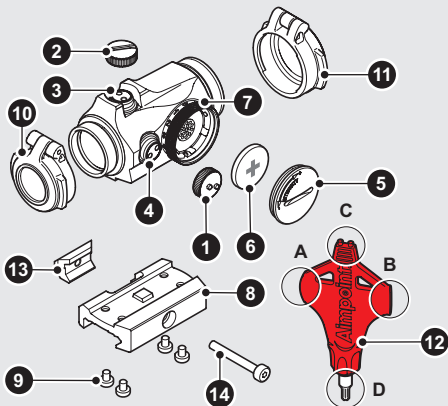

Fig. 1 Overview (configuration)
- a Remove the battery cap (5) using the tool (12 A).
- b Insert battery (6) with positive end (+) toward battery cap (5) as can be seen in Fig. 1.
If the sight is equipped with the mount shown in Fig. 1, follow the described procedure. For installation with other mounts, see accompanying instruction.